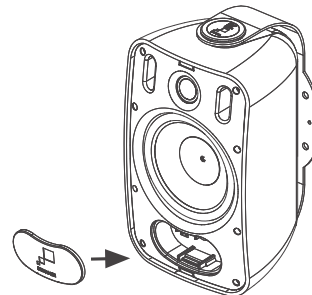

FIGURE 16:
10. Fit the wiring terminal covers into the recesses in the speakers' front panels (see figure 16).